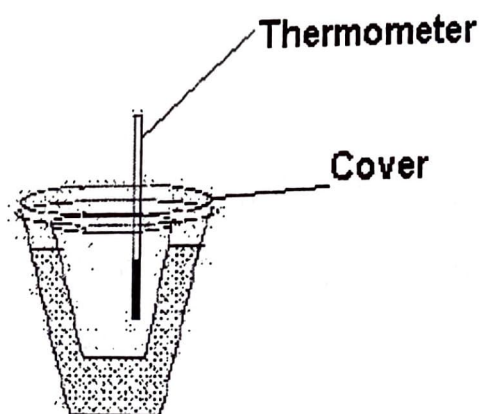

Figure 10.1. Simple calorimeter
The heat evolved or absorbed during the first two reactions will be measured with a coffee-cup calorimeter (Fig. 10.1). The enthalpy change for the third reaction will be calculated using Hess's law.
3. Insert the thermometer as indicated in Figure 10.1. Since the density of water over the range of temperatures in this experiment is very nearly 1.00 g/mL, the amount of water to be placed in the calorimeter can be more conveniently measured by volume.
- temperature changes, use equation (4) to calculate the calorimeter constant for your calorimeter.
9. Repeat the experiment to obtain additional value for the calorimeter constant. Use the mean value of the two determinations of the calorimeter constant in Part (B) of this experiment.